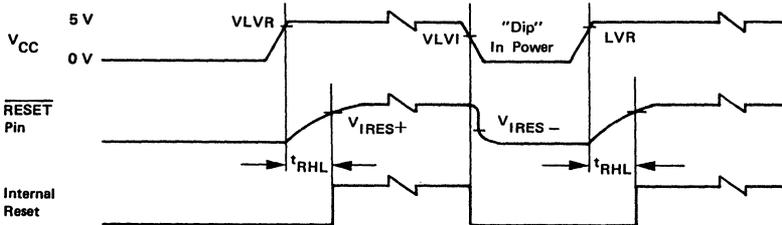
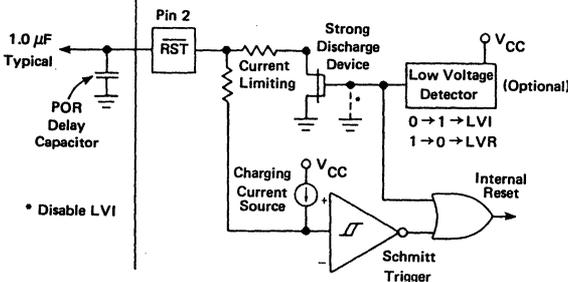

FIGURE 13 — POWER AND RESET TIMING
FIGURE 14 —  $\overline{\text{RESET}}$  CONFIGURATION
**Power-On Reset (POR)** — An internal reset is generated upon powerup that allows the internal clock generator to stabilize. A delay of  $t_{RHL}$  milliseconds is required before allowing the  $\overline{\text{RESET}}$  input to go high. Refer to the power and reset timing diagram of Figure 13. Connecting a capacitor to the  $\overline{\text{RESET}}$  input (as illustrated in Figure 14) typically provides sufficient delay. During powerup, the Schmitt trigger switches on (removes reset) when  $\overline{\text{RESET}}$  rises to  $V_{IRES+}$ .